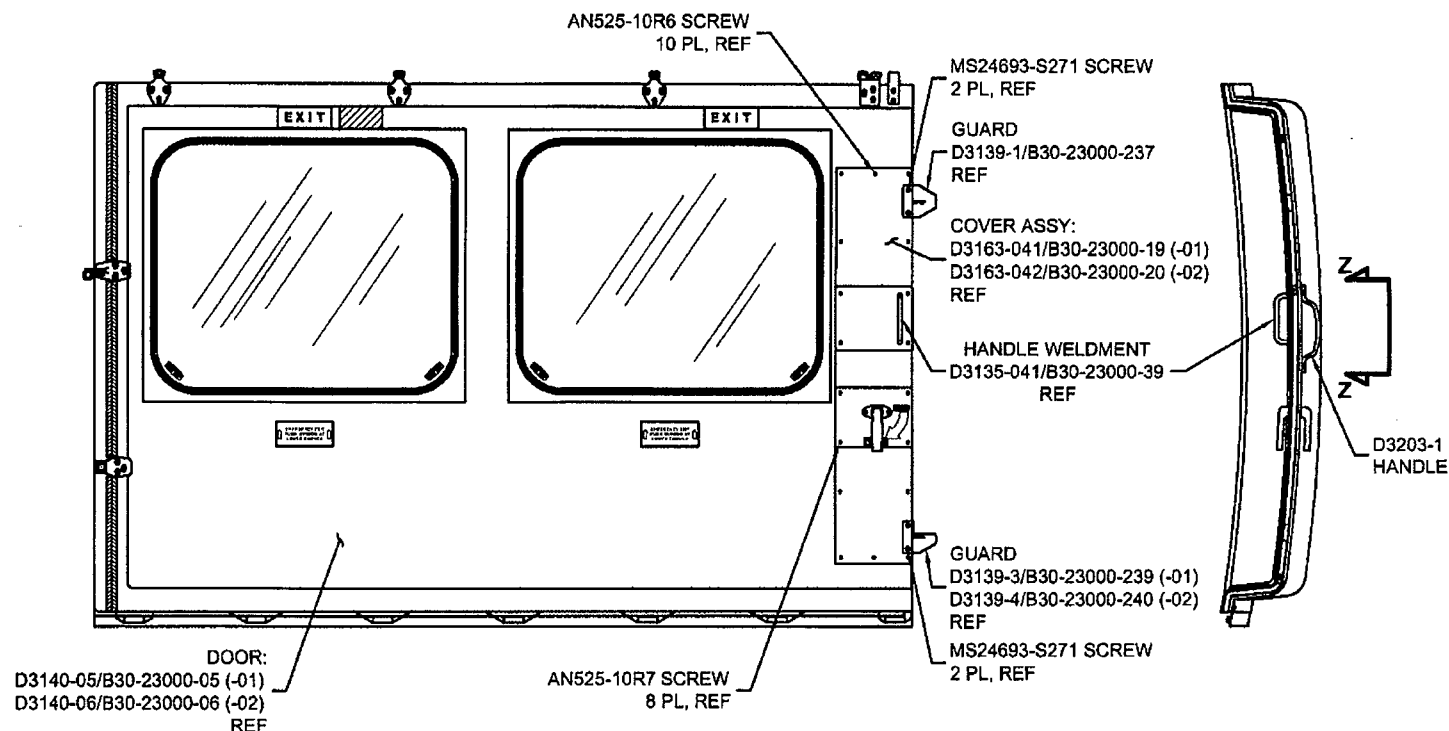

FIGURE 1
- 2.2 Locate and temporarily install D3203-1 Handle as shown in Figure 1 of this service instruction.